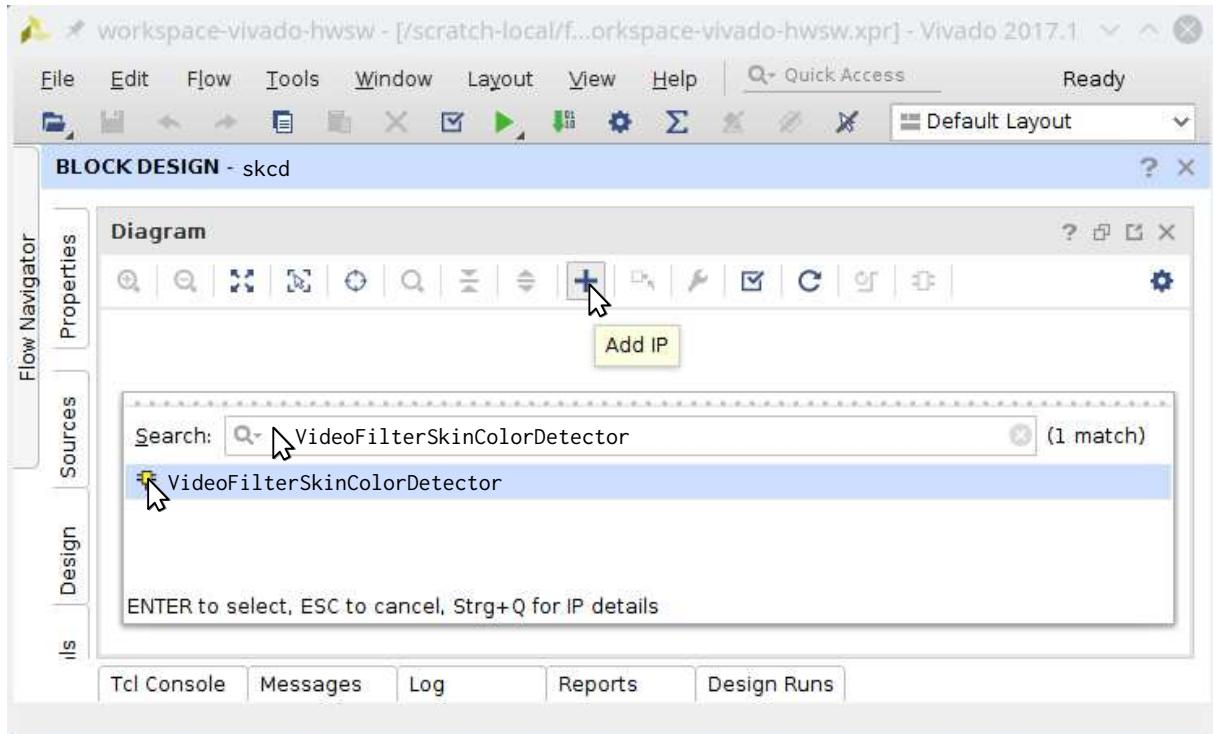
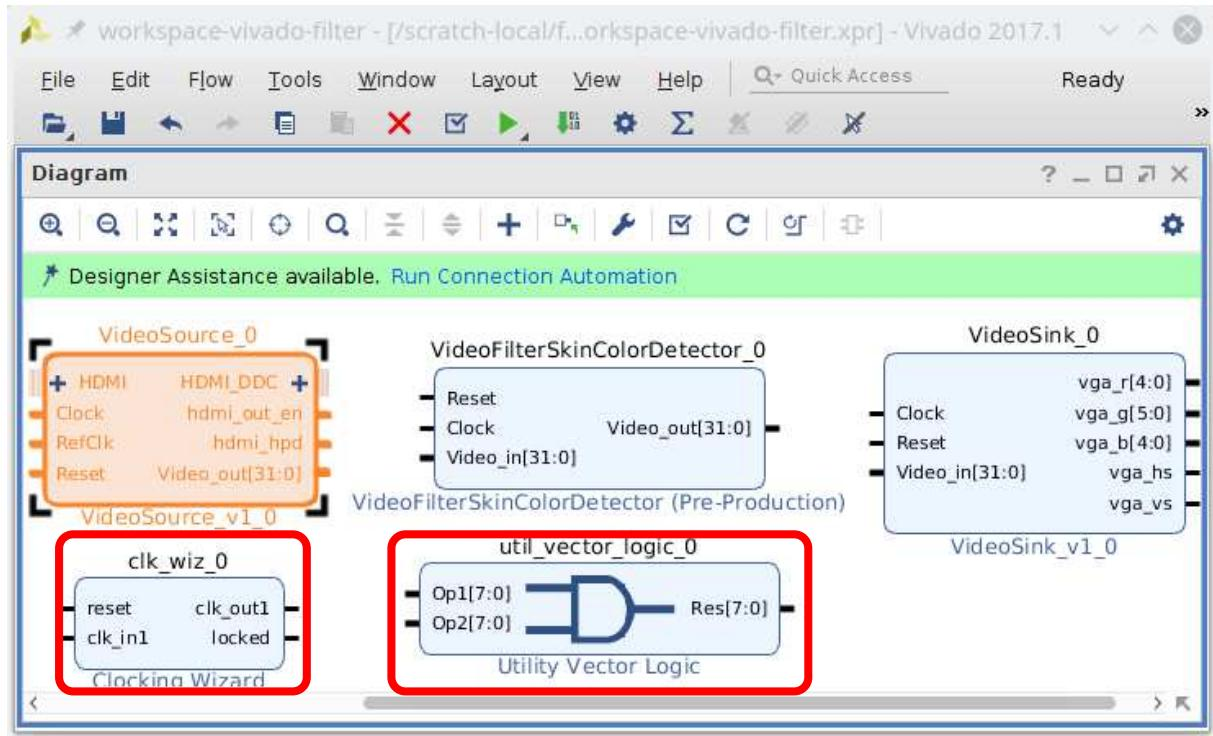

Figure 38: Add the IPB “VideoFilterSkinColorDetector” to the skcd block design
Figure 39: All IPBs for the skcd block design
- n) Add the IPBs “VideoFilterSkinColorDetector”, “VideoSource”, “VideoSink”, “Clocking Wizard”, and “Utility Vector Logic” to the empty skcd block design (see Figure 38). This should result in a block design similar to the one depicted in Figure 39. However, the IPBs